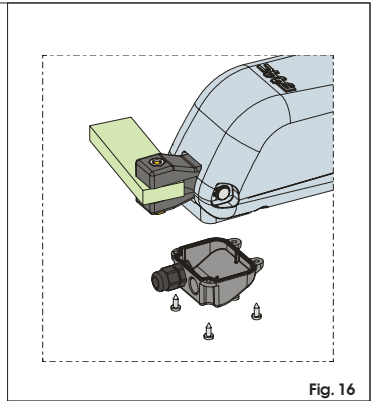

Fig. 16
4) Close the cover with the four supplied screws, Fig.16.